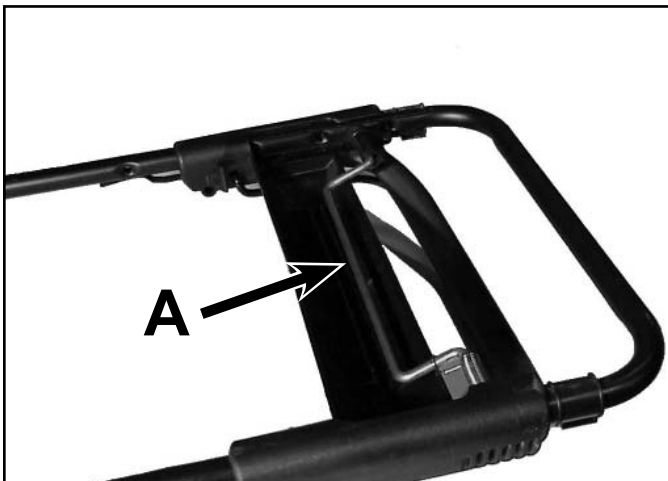

Fig 240
3. As the handle begins to slide downward, pull the traction control bar farther out of the handle (Fig. 240).